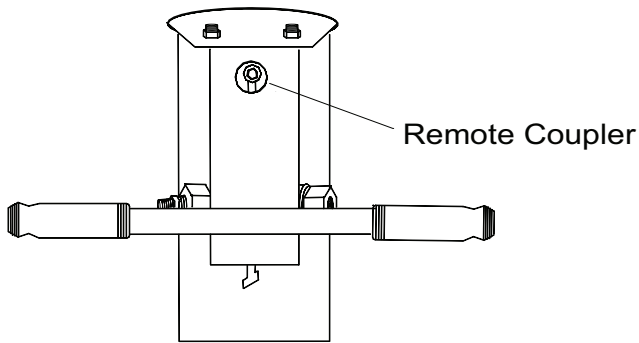

Figure 4 - End Lift rear coupler
1. Connect the supplied air hose to the coupler (ref. Fig 4) at the rear of the end lift.